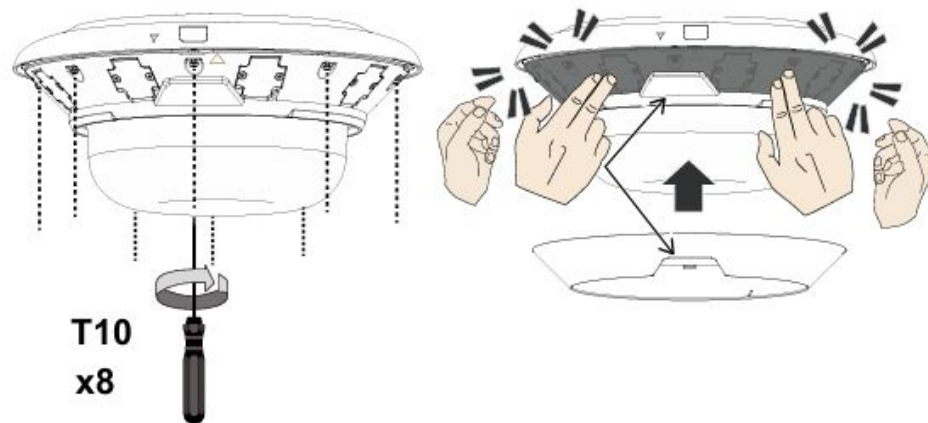

Figure 1-11
Step 10 Tighten all 8 of the captive T10 screws, then snap the IR shield into place. See Figure 1-11.